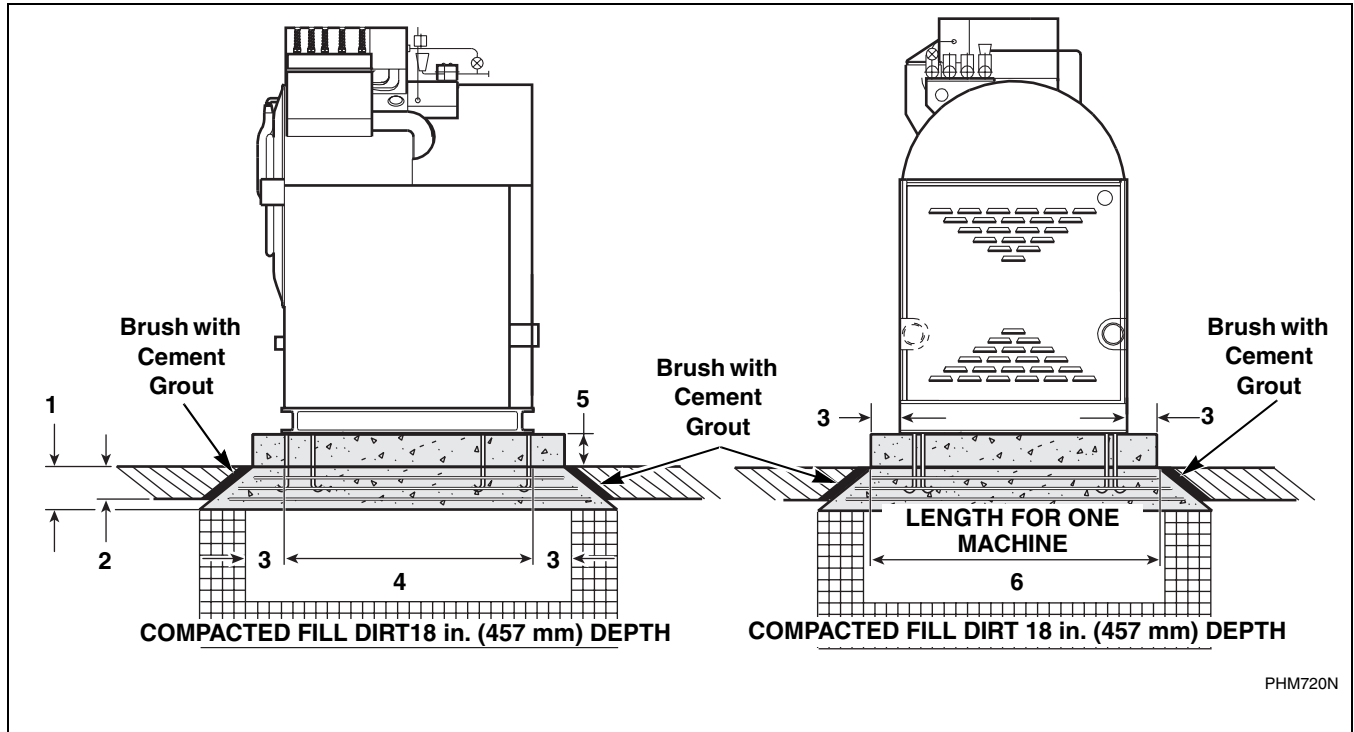

Figure 5
A concrete foundation and pad may be constructed to elevate the machines. Care must be exercised in the design of the foundation pad due to the force exerted by the machine during extract. This concrete base (recommended not to exceed 8 inches [20.32 cm]) must be poured, reinforced with rebar and tied to the existing 12 inch (30.48 cm) minimum floor. Refer to *Figure 5* and *Table 2*.
If the existing floor is not reinforced concrete at least 12 inches (305 mm) thick over a solid foundation, the following steps must be performed (refer to *Figure 5*):
**NOTE: If installing expansion bolts into an elevated concrete foundation pad, the concrete foundation pad should extend a minimum of 9 inches (229 mm) for UW35 machines or 12 inches (305 mm) for UW60 - 150 machines out from the machine base on all sides. Refer to *Figure 5*.**